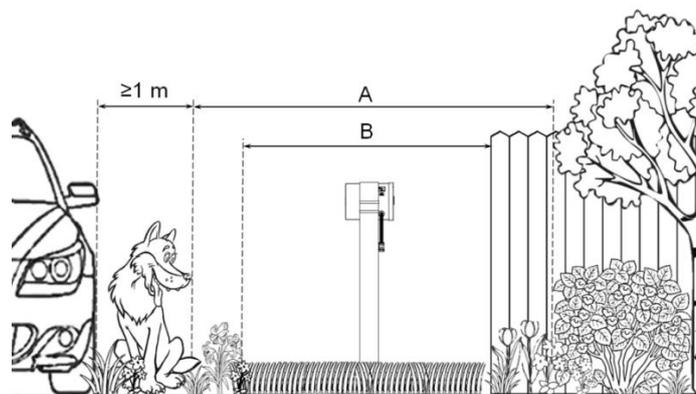

Figure 1.2 – Configuration of the protected site
1.2.2 The parameters of the sensors BARRIER-24.M (general purpose) correspond to the values given in P. 1.2.1 while meeting the requirements on installation according to Figure 1.2 and Table 1.3.